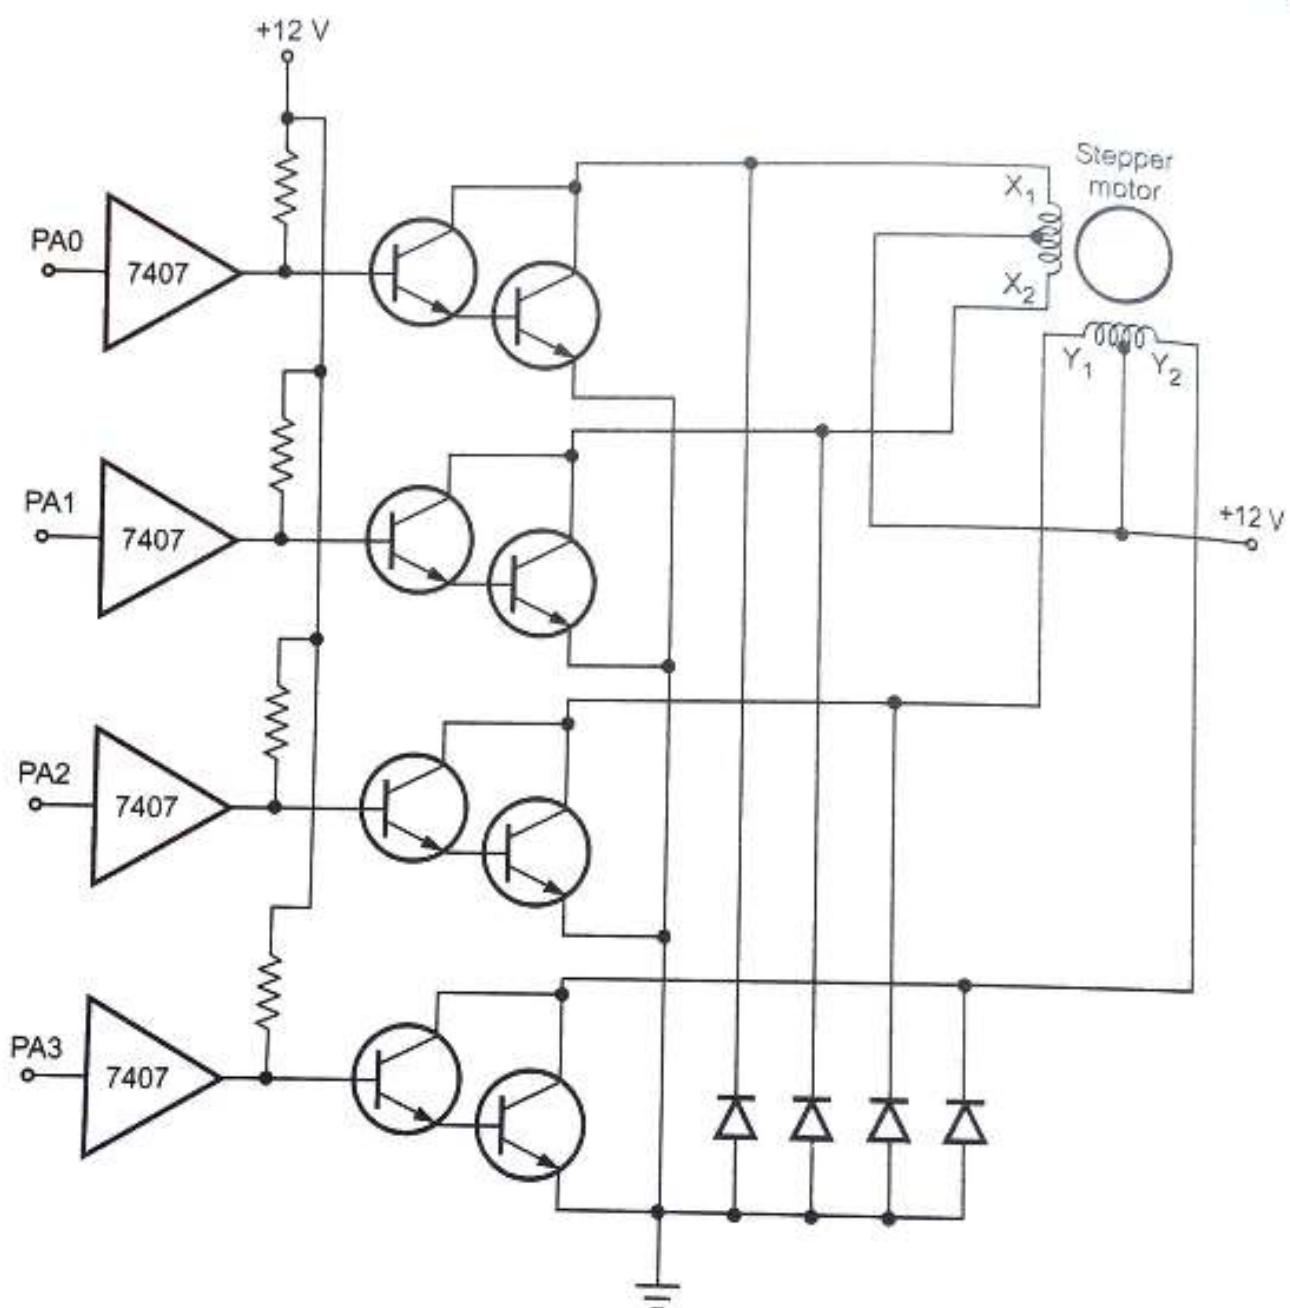

Fig. 3.7.1 Stepper motor interface
- Fig. 3.7.1 shows the typical 2 phase motor interfaced using 8255. Motor shown in the circuit has two phases, with center-tap winding. The center taps of these windings are connected to the 12 V supply. Due to this, motor can be excited by grounding four terminals of the two windings.